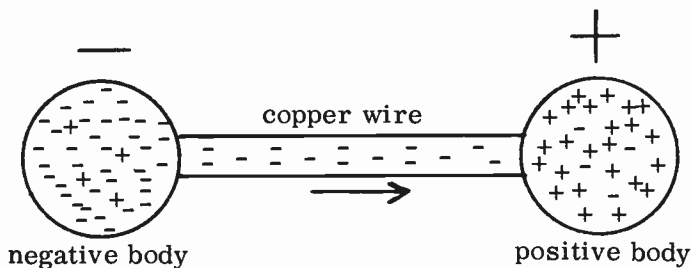

FIG. 1-3. FLOW OF ELECTRONS.
**DIFFERENCES OF POTENTIAL.** If we were to connect a copper wire between two equally and oppositely charged bodies, an electron flow would result. Electrons will flow from the negatively charged body to the positively charged body. This is because the positively charged body, which has a deficiency of electrons, will attract and take away the excess electrons from the negatively charged body. This action will continue until the deficiency and excess of electrons has disappeared and the two bodies become neutral or uncharged. See Fig. 1-3.